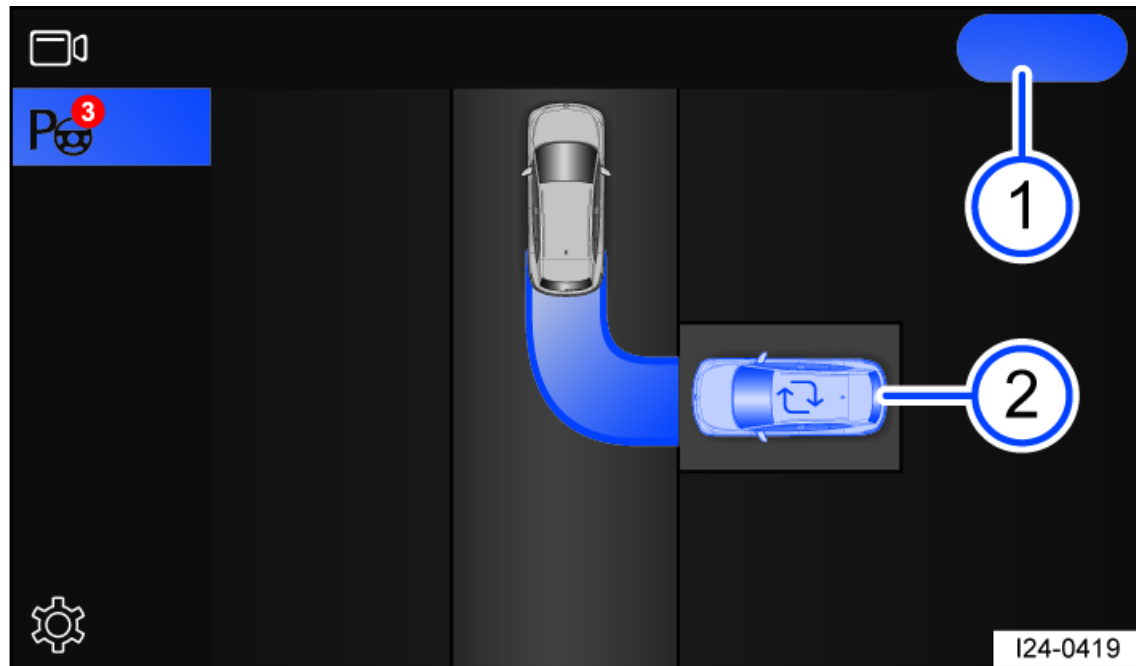

Fig. 117 Infotainment system: parking maneuver (general example).
2. Tap **(Start)** in the Infotainment system *fig. 117*.